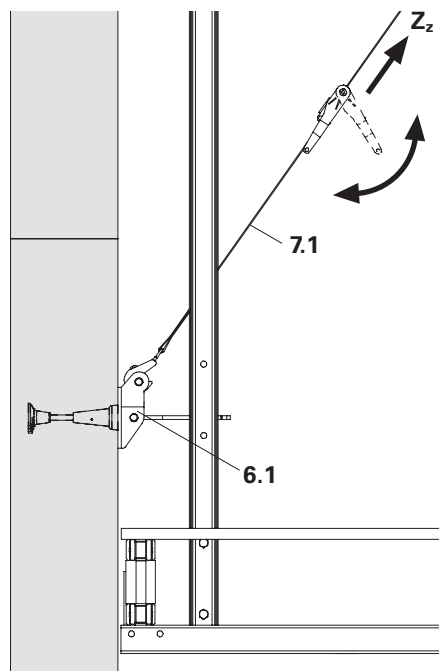

Fig. B1.33
6. Attach tension belt (7.1) below in the Bracing Shoe Wall CB M24 (6.1) and tighten. (Fig. B1.33)